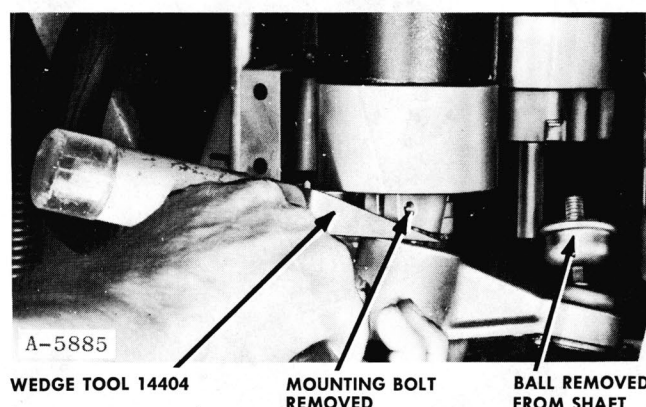

Figure 102
2. Loosen the bolt, Figure 102 that mounts the agitate arm in the clamp mount on the agitate wheel.
3. Use tool 14404 to remove the agitate arm from the agitate wheel, Figure 102.